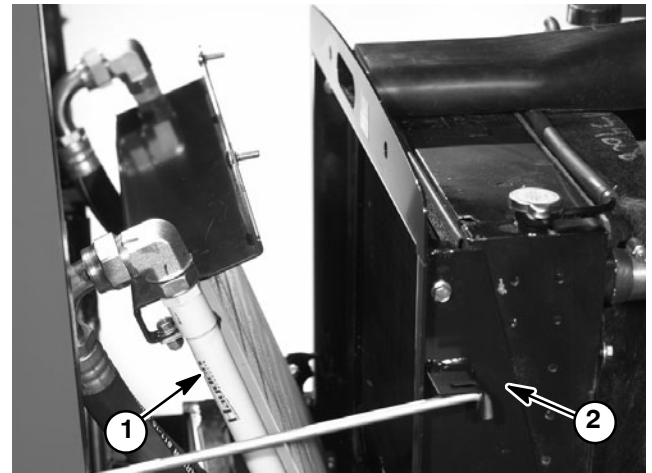

Figure 85
3. Remove oil cooler using Figures 85 and 86 as guides.
1. Install oil cooler using Figures 85 and 86 as guides.